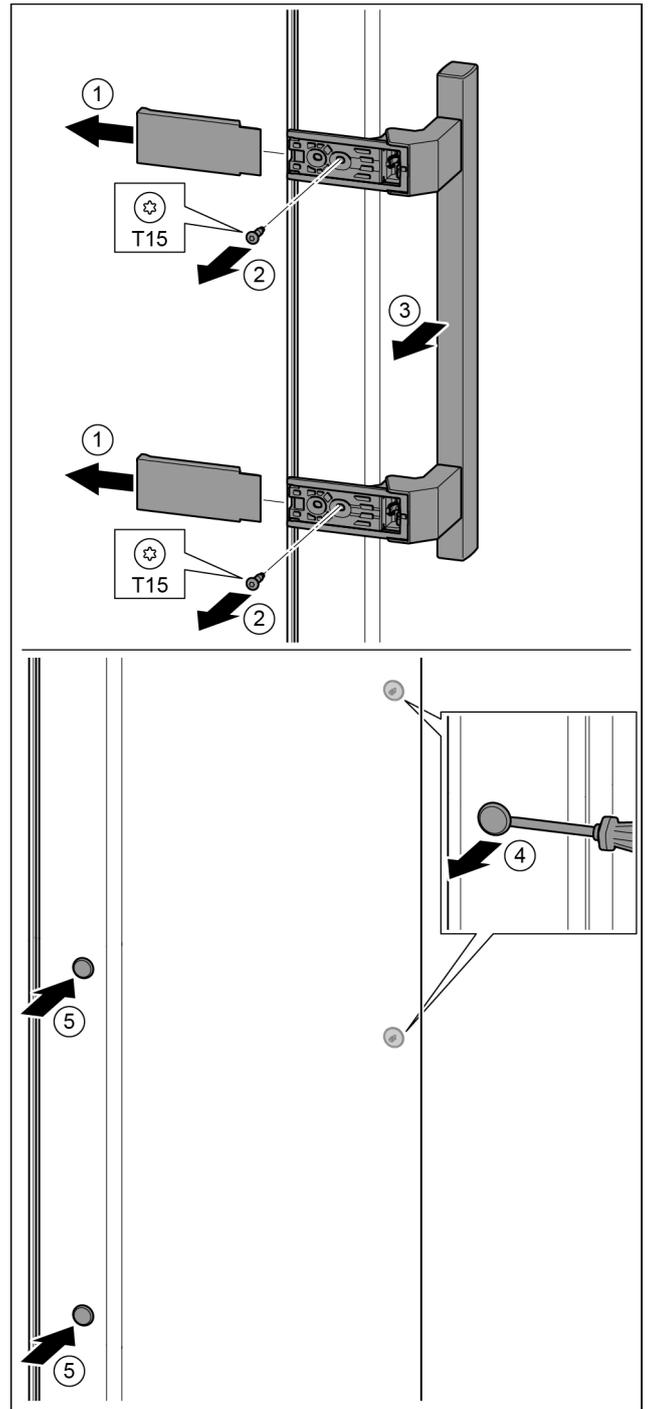

Fig. 33
- ▶ Pull off the cover. Fig. 33 (1)
- ▶ Remove the screws with the T15 screwdriver. Fig. 33 (2)
- ▶ Remove the handle. Fig. 33 (3)
- ▶ Carefully lift up the side plugs with a slotted screwdriver and pull them out. Fig. 33 (4)
- ▶ Insert the plugs again on the other side. Fig. 33 (5)